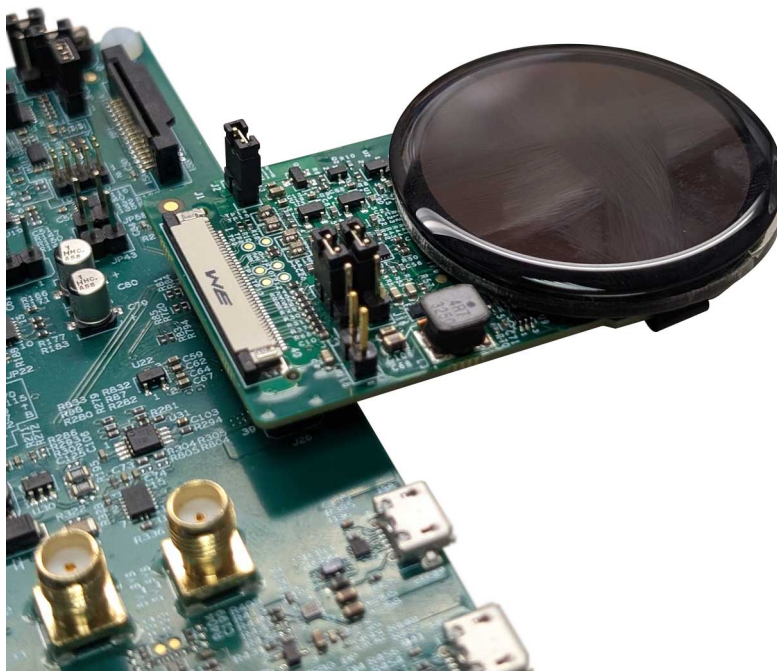

Figure 6. LCD connection to J26
2. Connect the ZC143AC72 LCD panel to the connector J26 as shown in Figure 6.